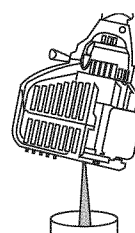

Fig. 20
- Pour the oil out of the oil fill hole and into a container by tipping the unit to a vertical position (Fig. 20). Allow ample time for complete drainage.